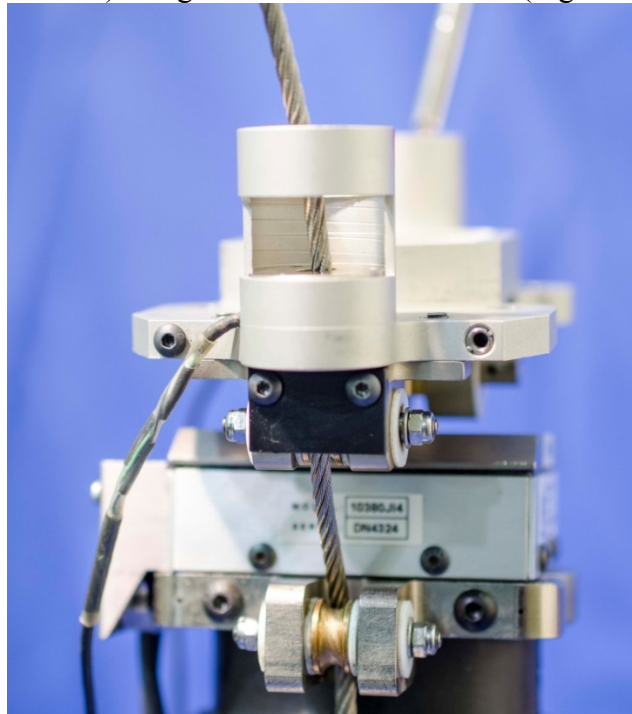

Figure 4-35. Install neck pulley plate to neck mounting plate
4.2.2.23 Install the Neck Pulley Plate (472-2012) to the rear side of the Neck Mounting Platform (472-2200) using two M3 x 0.5 x 8 BHCS (Figure 4-35).